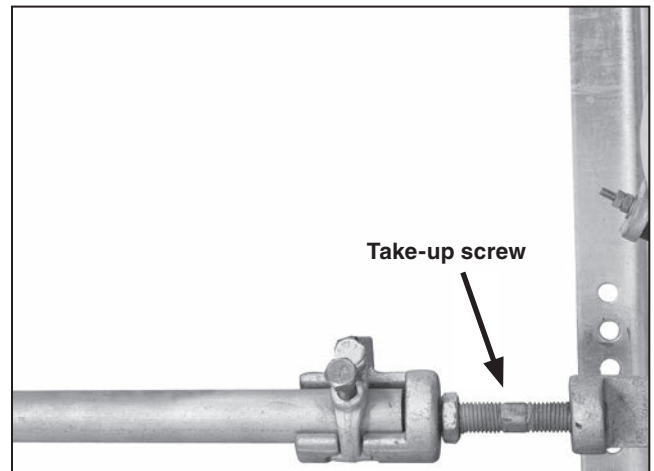

Figure 15. Take-up screw of adjustable pipe-coupling.
STEP 10. Tighten the take-up screws of the adjustable pipe couplings to remove all play in the interconnecting linkage. See Figure 15. Make sure the switch-pole toggle mechanisms remain against their closed stops.